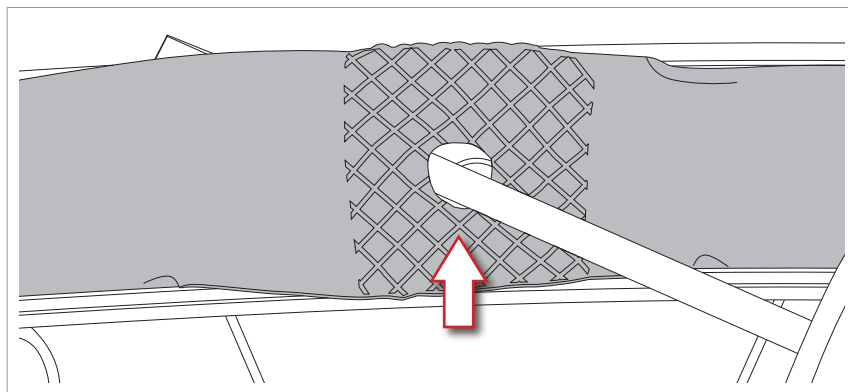

Fig.1
- Remove the original rim tape from the wheels, if present, using a screwdriver to separate it from the rim (Fig.1).